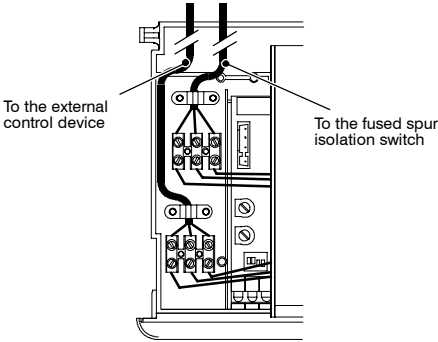

Fig. 6.16
- 9 Route the electrical supply flexible cord and the external control flexible cord as illustrated in Fig. 6.16.